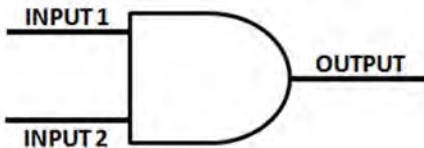

Figure 6-4. The AND Logic Gate circuit symbol
Just like the NOT Logic Gate discussed in Chapter 5, the AND Logic Gate has a special circuit symbol, shown in Figure 6-4. The truth table (TT) shows the logic gate operation. Figure 6-5 is an AND Logic Gate TT.